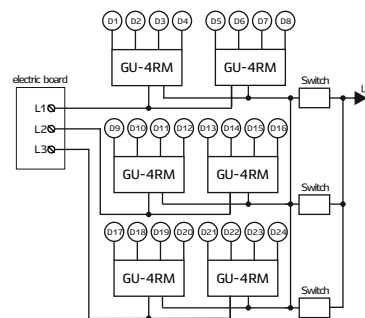

Fig. 4 — Connecting the GU-4RM to different phases of the supply network
2. connect the formed groups to different phases of the power supply network (see Fig. 4).